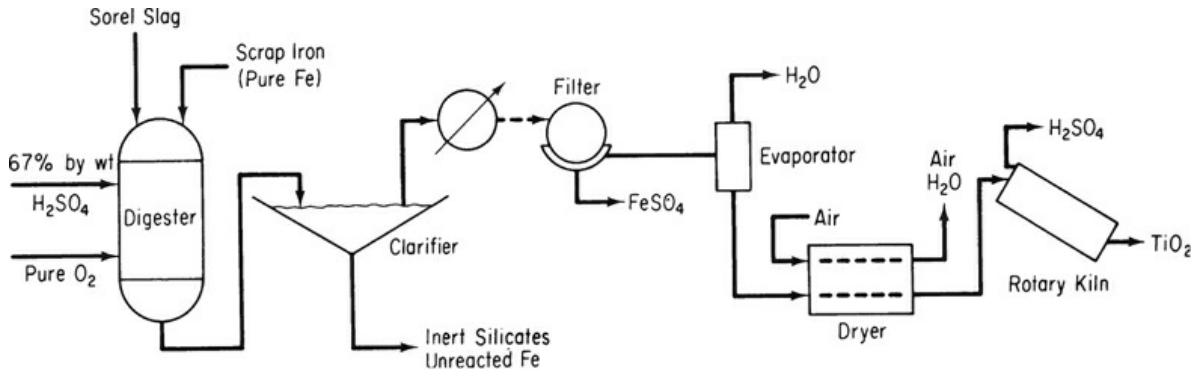

Figure P5.2.13
****5.2.13 The flowsheet shown in Figure P5.2.13 represents the process for the production of titanium dioxide (TiO₂) used by Canadian Titanium Pigments at Varennes, Quebec. Sorel slag of the following analysis